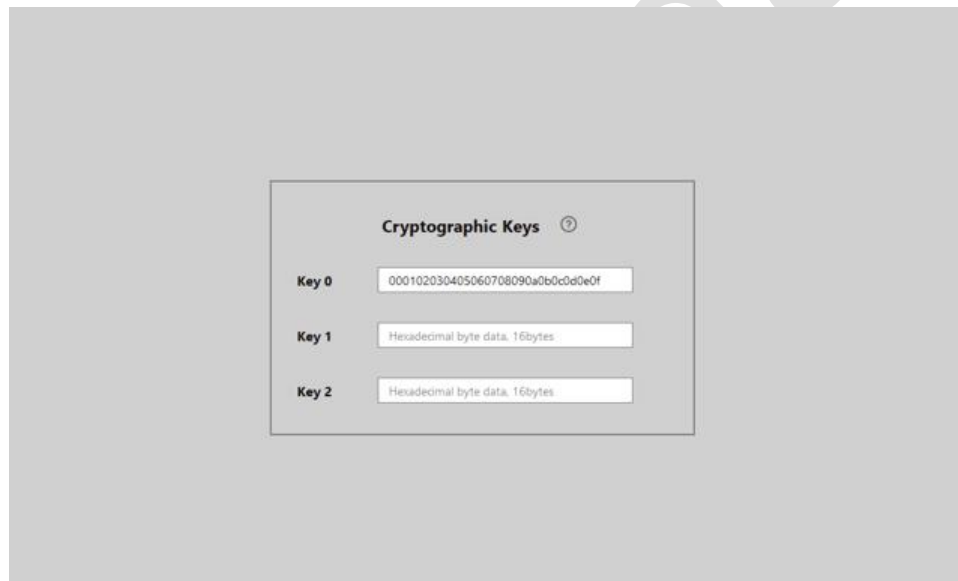

Figure 15 : Selection of key and key for AES-EAX
The AES-EAX needs a 16-byte key for the encryption and authentication for each advertising set. There are three keys (key0, key1 and key2) to be chosen from, as shown in Figure 15.
The configuration of the three key is in the "Global Settings as shown in Figure 15. The input box of the corresponding key needs to be filled with hexadecimal data.